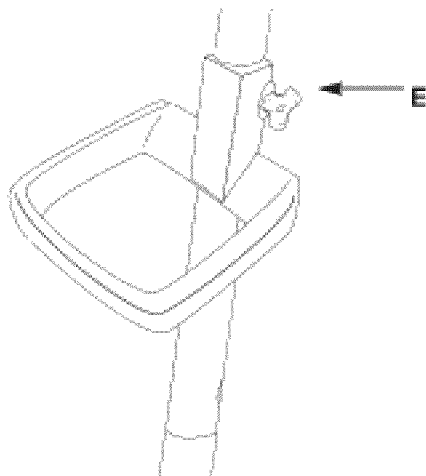

Figure 4
5. Loosen the adjustable handle and reposition until it reaches the optimum length for the principal operator, then retighten the bolt in Figure 4. (Readjust for each subsequent operator)